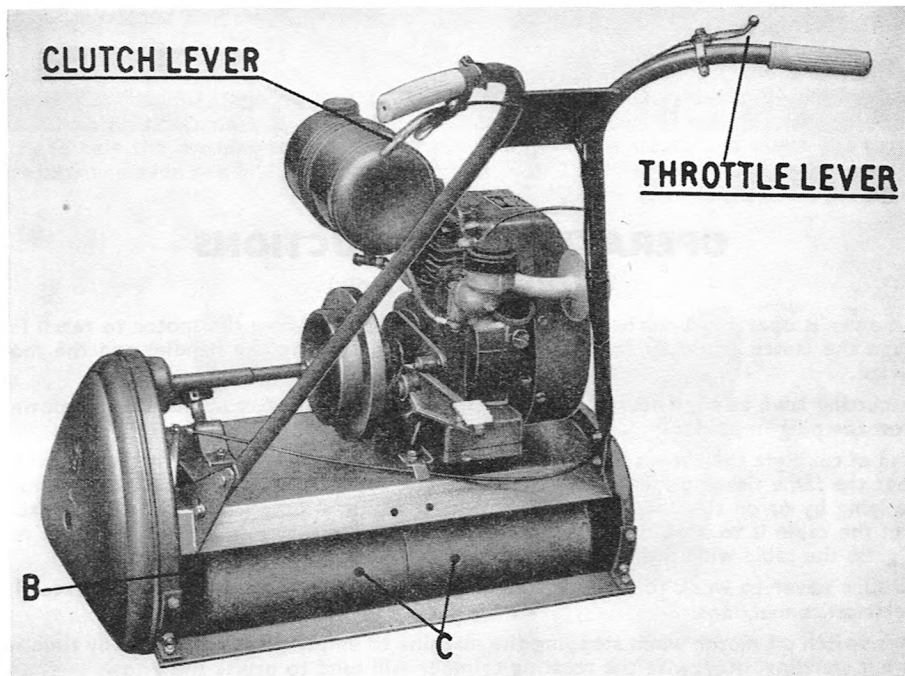

Fig. 3.
2. Land roll spindle bearings through nipples B in housings. (Fig. 3).